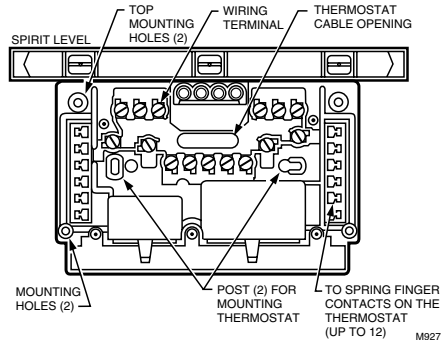

Fig. 2. Leveling subbase.
5. The subbase mounting slots provide for minor out-of-level adjustments. Level the subbase by using a spirit level and tightening the subbase mounting screws. See Fig. 2.